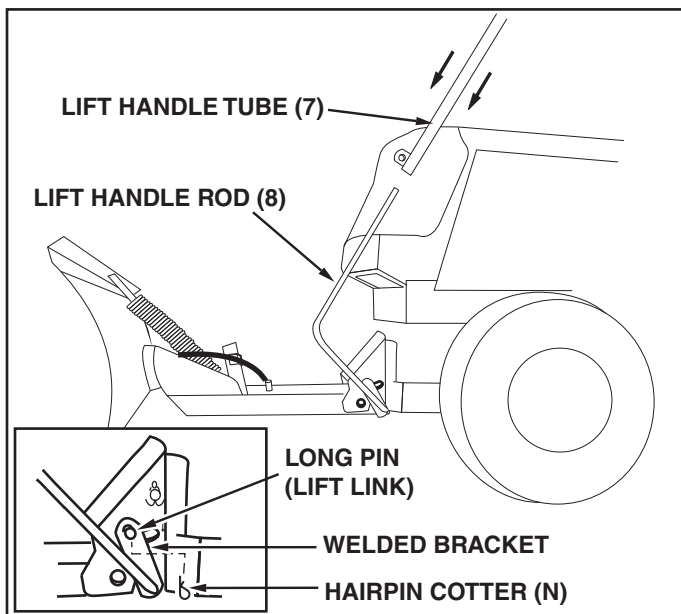

FIGURE 8
STEP 8: From the left side, insert the welded end of the lift handle rod (8) through the hole in the end of the channel assembly (Figure 8). Next, insert the lift link pin through the hole in the bracket that is welded to the lift handle rod. (The lift link is pre-assembled to the pivot support assembly). Secure the bracket with a hairpin cotter (N) inserted up through the lift link pin.
- Apply a light coat of oil to the straight upper portion of the lift handle rod. Slide the lift handle tube (7) onto the rod.
7. Remove the hairpin cotter which fastens the lift handle rod to the lift link pin. See figure 8, page 6.